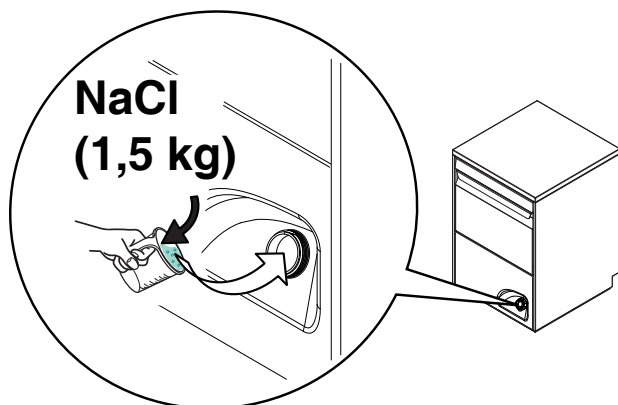

Figure 21
- Pour approx. 1.5 kg of coarse salt [NaCl] in container "A" (an amount sufficient to fill the salt container up to the rim) using the special funnel supplied (Figure 21).